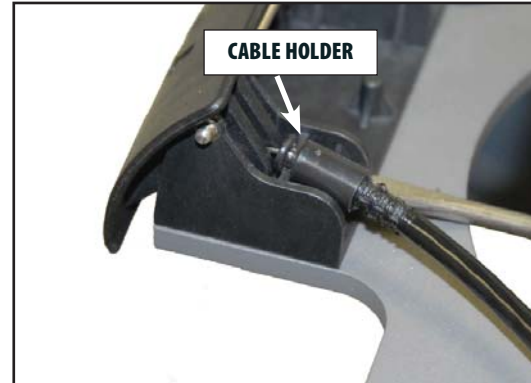

FIGURE 6.6
3. Using the small flat-head screwdriver, free the black Cable Housing from the groove behind the Lever. Refer to **Figure 6.6**.